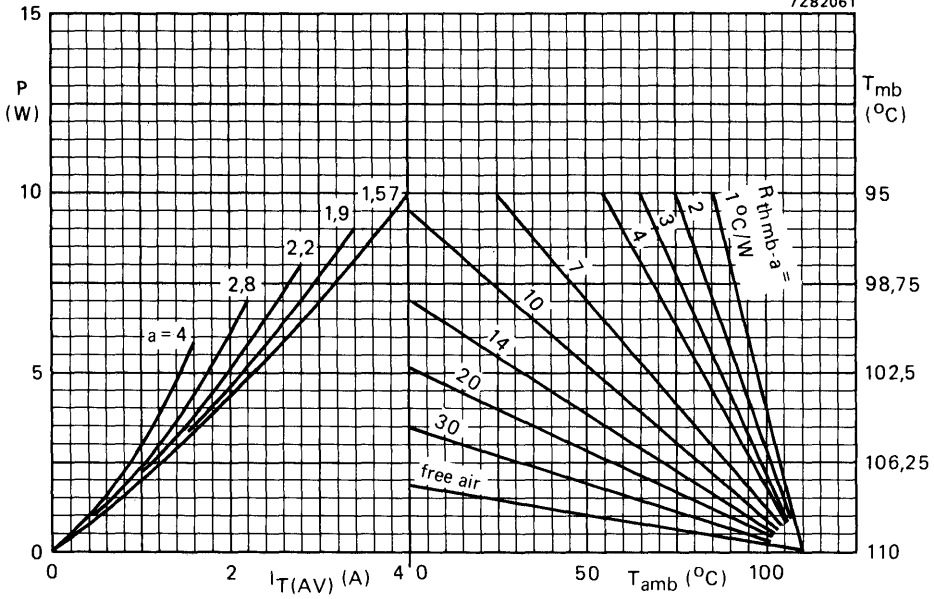

Fig. 5 The right-hand part shows the interrelationship between the power (derived from the left-hand part) and the maximum permissible temperatures.
- b. The method of using Fig. 5 is as follows: